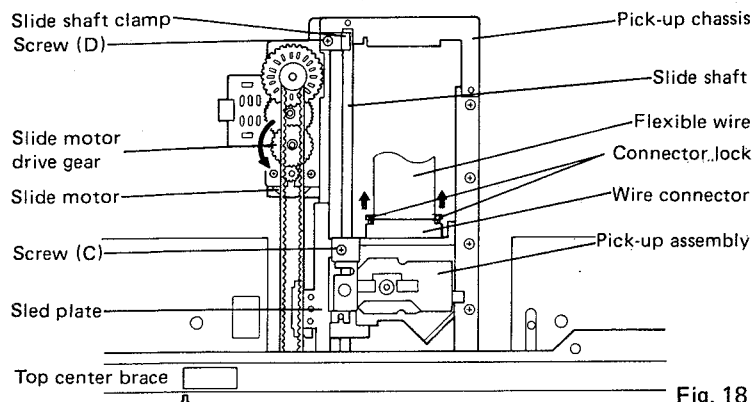

Fig. 18
3. Remove the RGB assembly (PG06). (Fig. 18)
7. Turn the slide motor drive gear with your finger to move the PICK-UP assembly until you can see it. (Fig. 18)
8. On the pick-up side, unlock the connector of the flexible wire by sliding the lock in the direction of the arrow, and disconnect the flexible wire. (Fig. 18)
10. Remove the screw (C) which retains the sled plate and the screw (D) which retains the slide shaft clamp from the rear side. (Fig. 18)
2. Rotate the slide motor drive gear, and move the pick-up assembly to the rear panel side to permit the insertion of a hexagon wrench. (Fig. 18)